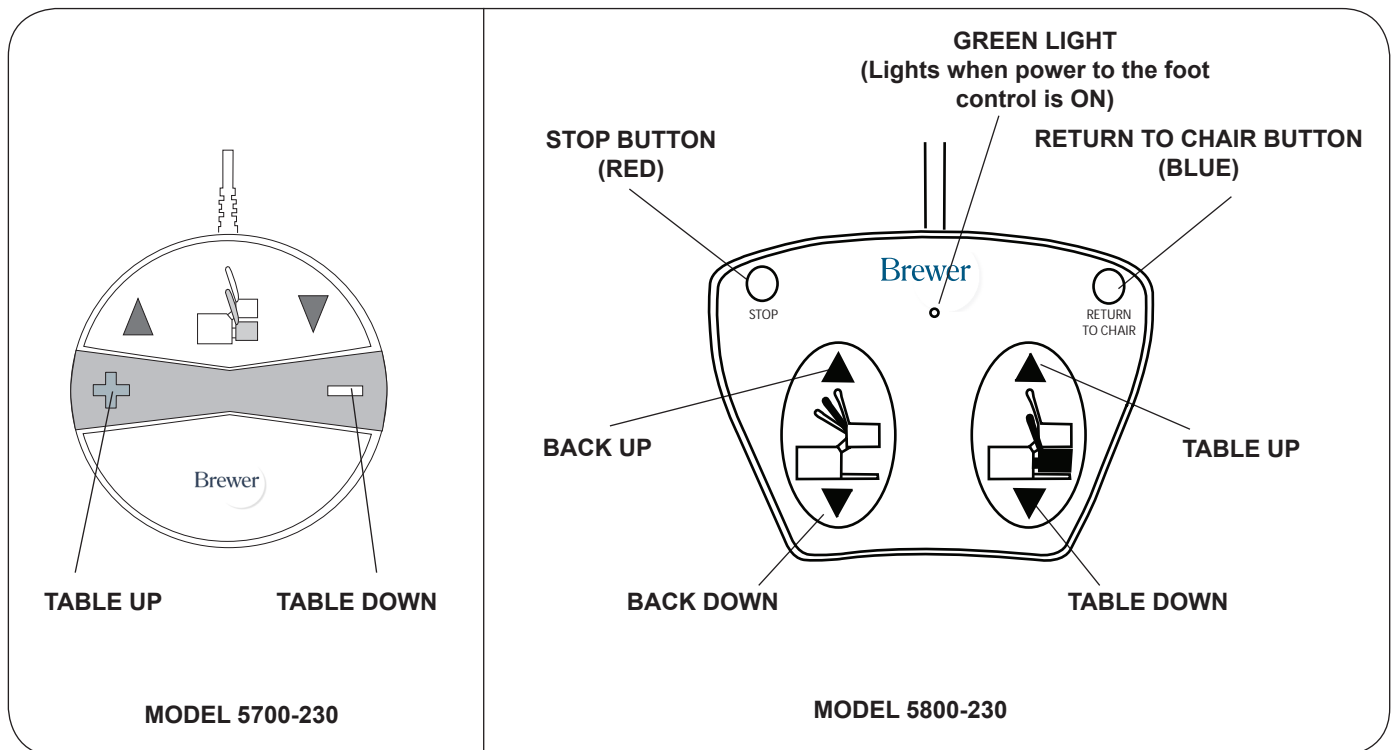
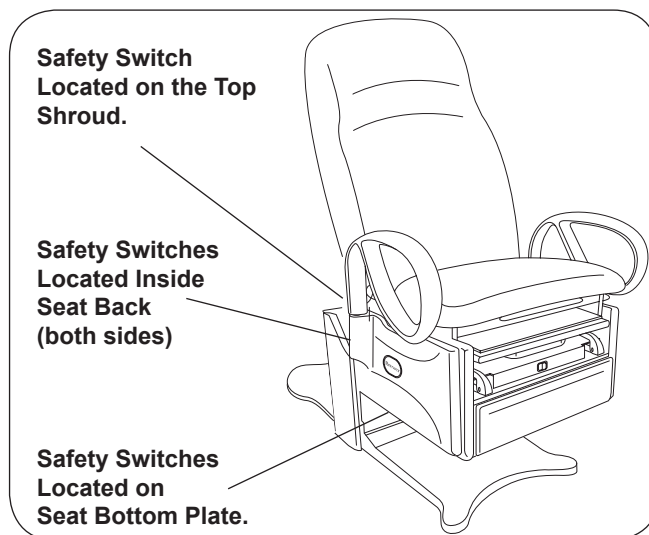

Figure 19. Foot Controls
Figure 20. Seat and Backrest Safety Switches
All models are equipped with switches on the seat bottom (Figure 20) which automatically stop the lowering function of the seat if the seat bottom plate comes into contact with an object as the seat is lowering. To continue lowering the seat, press the "TABLE UP" pedal (Figure 19), clear the obstruction, and continue lowering the seat.
All models are equipped with a switch on the top shroud (Figure 20) which automatically stops the lowering function of the seat and back if the switch is contacted by the backrest. To continue lowering the seat:
- **Model 5800** - Depress the "BACK UP" pedal (Figure 19) to clear the switch. When clear of the switch continue lowering the seat.